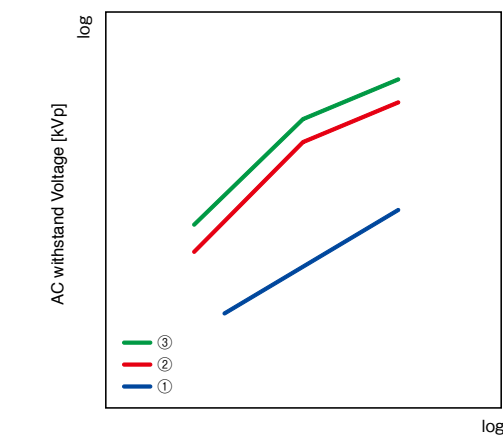

Figure 2.
(3) Electrode conditioning
Figure 2 shows "distance between electrodes-withstand voltage" characteristics. It is not possible to obtain high withstand voltage like behavior. ① (before conditioning) by simply placing electrodes in vacuum. High withstand voltage requires conditioning, which is to apply high working voltage and repeat low current flashover multiple times performed in our HASS testing. ② Exhibited withstand voltage characteristics after conditioning during production HASS/conditioning. ③ display post conditioning withstand voltage. Please note that instant discharge may occur after reaching ② and ③ by conditioning. Conditioned peak voltage tolerance degrades over time.